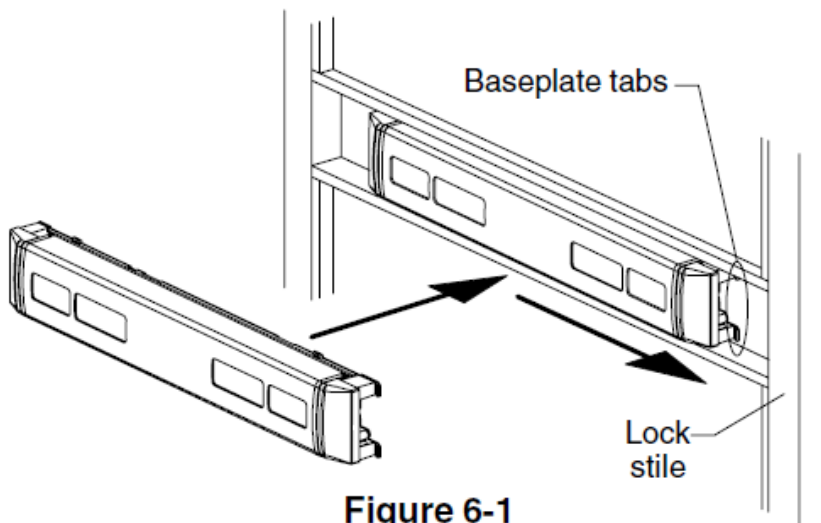
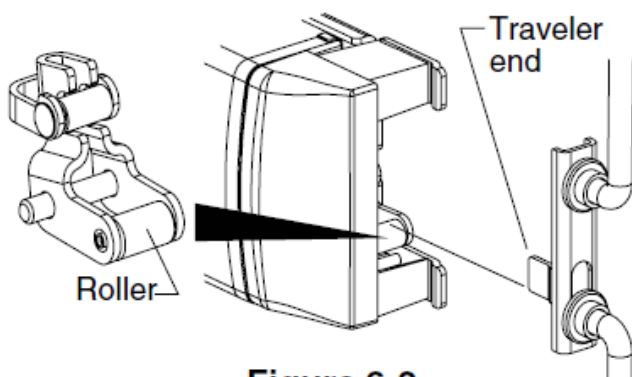
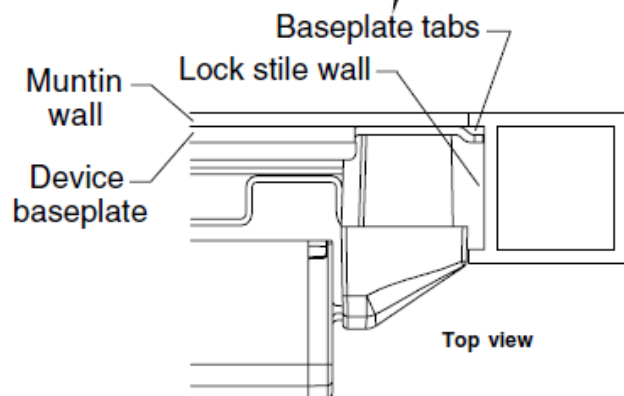

Figure 6-1
Figure 6-2
Figure 6-3
- 6.1. Place dogged device in door and slide toward lock stile (Figure 6-1) so roller fits under traveler end (Figure 6-2) and baseplate tabs touch lock stile wall (Figure 6-3).